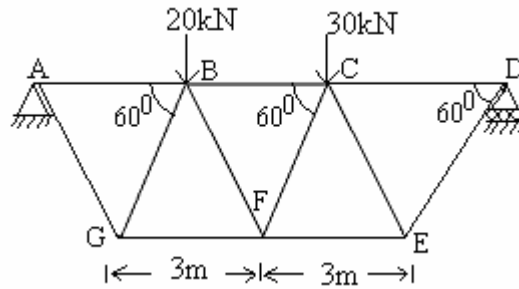

Fig.4
5. For the truss shown in Fig.4, determine by unit load method, vertical deflection at the joint B where 20 kN load is acting. Take cross-sectional area of all members as 2300 mm^2 and $E = 200 \text{ GPa}$. [16]